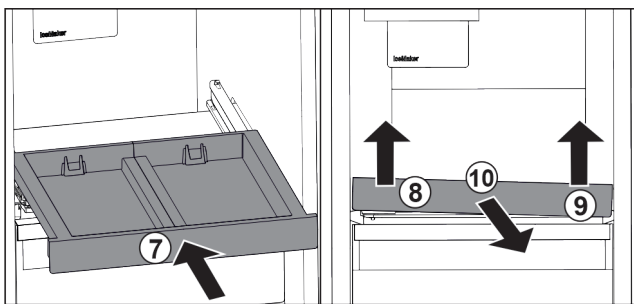

Fig. 28
- ▶ Slide in the pull-out board. Fig. 28 (7)
- ▶ Lift the pull-out board on the front left. Fig. 28 (8)
- ▶ Lift the pull-out board on the front right. Fig. 28 (9)
- ▶ Take out the pull-out board to the front. Fig. 28 (10)